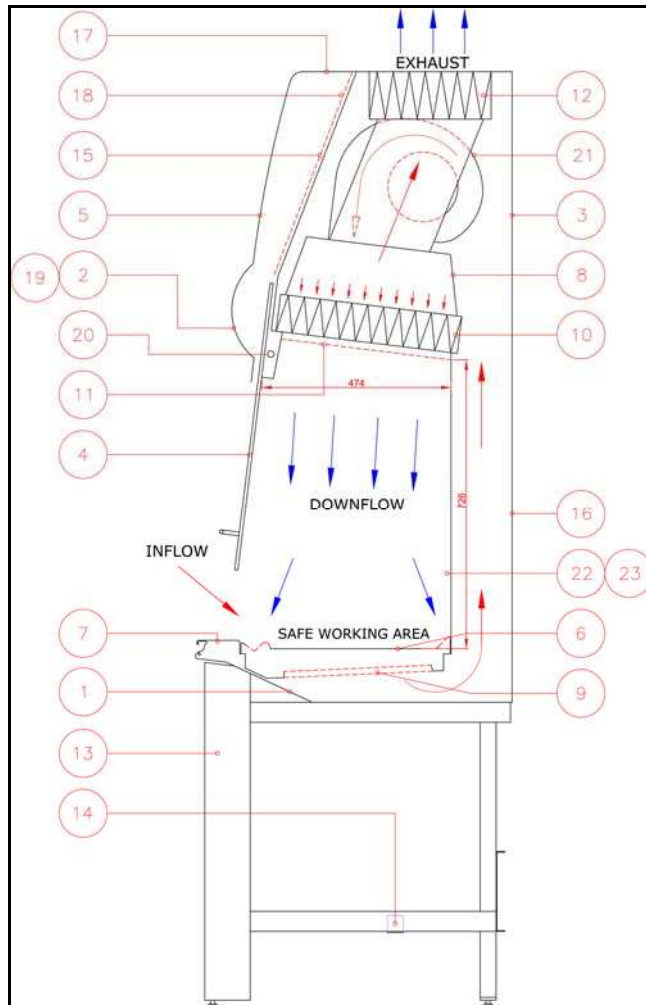
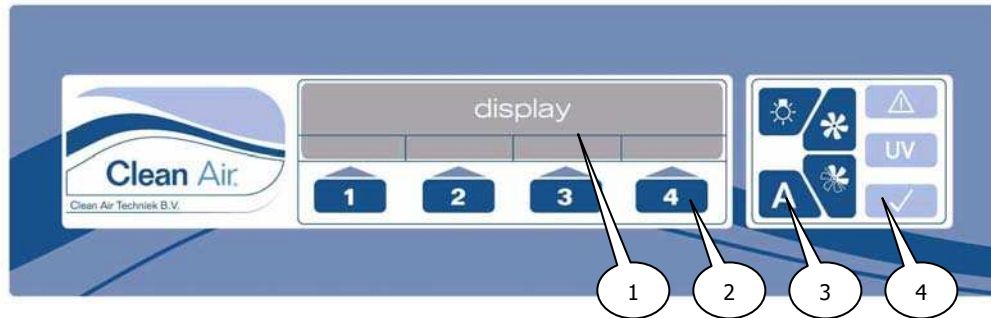

Figure 2 Sectional view EF/S
Figure 3 Operating panel
The type plate (*Figure 2*, Pos 1) mentions instructions that are important for the connection of the biological safety cabinet. See *Appendix VIII: Stickers on page 74*.
The short user manual (*Figure 2*, Pos 2) gives a brief overview of the primary functions, and is included with the cabinet. See also *Appendix XII: Short user manual on page 81*.
The body of the installation (*Figure 2*, Pos 3) is made of epoxy-coated steel. The interior of the body is made of stainless steel (304). The body is leak tight as per LI-C (table 1 and 4 of the EN
The hinge-slide window (*Figure 2, Pos 4*) is a tightly closing, manually operated (optional: electrically operated) glass window. It can be slid up or down, and opened and closed it means of handgrips. The window consists of guiding construction with a working position (this working position is also indicated by means of two blue indication stickers). The window can be hinged, but only in the hinge/disinfection position; the aerofoil has to be hinged to the outside.
The electrically operated window can be slid up or down supported by an electrical motor, only with the top hood (*Figure 2, Pos 5*) closed. The window consists of guiding construction with a working position (this working position is also indicated by means of two blue indication stickers). The window can be hinged, but only in the hinge/disinfection position; the aerofoil is hinged to the outside. If anything blocks the window while sliding down, the window will automatically slide up a few centimetres. This means safety for fingers and hand.
In and behind the top hood (*Figure 2, Pos 5*) a number of electrical components are assembled.
The workroom contains a stainless steel (type 304) worktop (*Figure 2, Pos 6*) with a deepened work surface. This deepened work surface is called the safe working area (for information about the dimensions see *§10.2 General specifications on page 59*). At the front and the back there are air slits, which are essential to the functioning of the installation.
The aerofoil (*Figure 2, Pos 7*) is used for a better air conduction and to support the elbow. During work with the cabinet the aerofoil needs to be hinged down.
The plenum-construction (*Figure 2*, Pos 8) divides the air, which is let in by the fan, between the downflow HEPA-filter and the exhaust HEPA-filter.
The pre-filter with drip tray (*Figure 2*, Pos 9) is assembled under the worktop. The installation is equipped with this to protect the interior of the installation against pollution by coarse materials and to collect spilled fluids. Furthermore the pre-filter will enhance the life span of the HEPA-filter significantly.
The downflow HEPA-filter (*Figure 2*, Pos 10) has a very high efficiency: Class H14 in accordance with EN1822. After assembling, each filter will be tested separately according to EN12469:2000, Annex D. Through the service panel the downflow filter can be reached.
The protection grid (*Figure 2*, Pos 11) influences the protective downflow air and must always be mounted.
The exhaust HEPA-filter (*Figure 2*, Pos 12) has a very high efficiency: Class H14 in accordance with EN1822. After assembling, each filter will be tested separately according to EN 12469:2000, Annex D. Through the topside of the cabinet the exhaust filter can be reached.
For a stable positioning of the EF/S cabinet, we strongly recommend the use of the especially designed support frame from the supplier (*Figure 2*, Pos 13).
This support frame includes an in steps adjustable feet support for a good ergonomically work position (*Figure 2*, Pos 14). As well, the feet support will increase the stability of the cabinet. In addition, it is recommended to use an in height adjustable, well disinfectable, chair to optimize the work position.
The support frame includes an in steps adjustable feet support for a good ergonomic work position (*Figure 2*, Pos 14). As well, the feet support will increase the stability of the cabinet. In addition, it is recommended to use an in height adjustable, well disinfectable, chair to optimize the work position.
The service panel (*Figure 2*, Pos 15) can be dismantled to get access to:
The back panel (*Figure 2*, Pos 16) can be dismantled to get access to:
The main power connection (*Figure 2*, Pos 17) is positioned on the top of the cabinet. The cord length is maximum 3 meters and should always be accessible. See §10.2 *General specifications on page 59* for details.
The electronics (*Figure 2*, Pos 18) consist of:
The operating panel (*Figure 2*, Pos 19 and *Figure 3*) consists of: